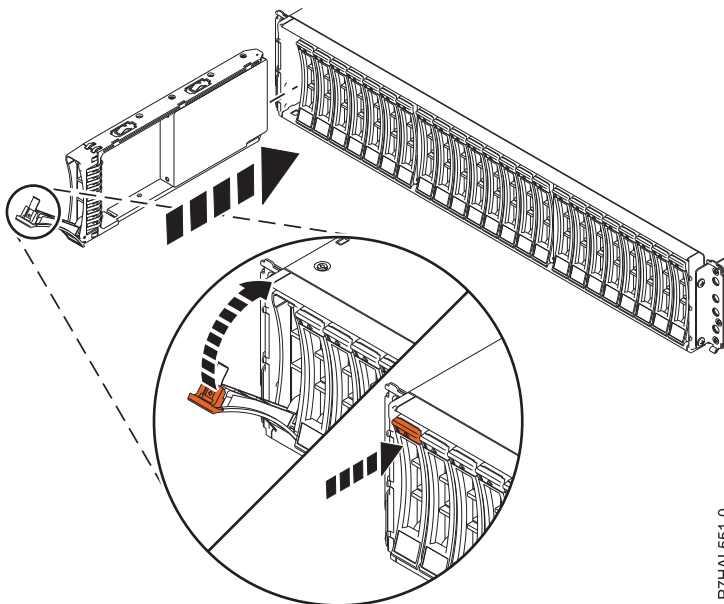

Figure 49. Installing or replacing a disk drive in an enclosure
3. With the handle in the unlocked position, as shown in Figure 49, support the bottom of the drive as you align it with the guide rails in the expansion unit.
8. Lock the drive by rotating the bay handle (A) in the direction that is shown in Figure 49.